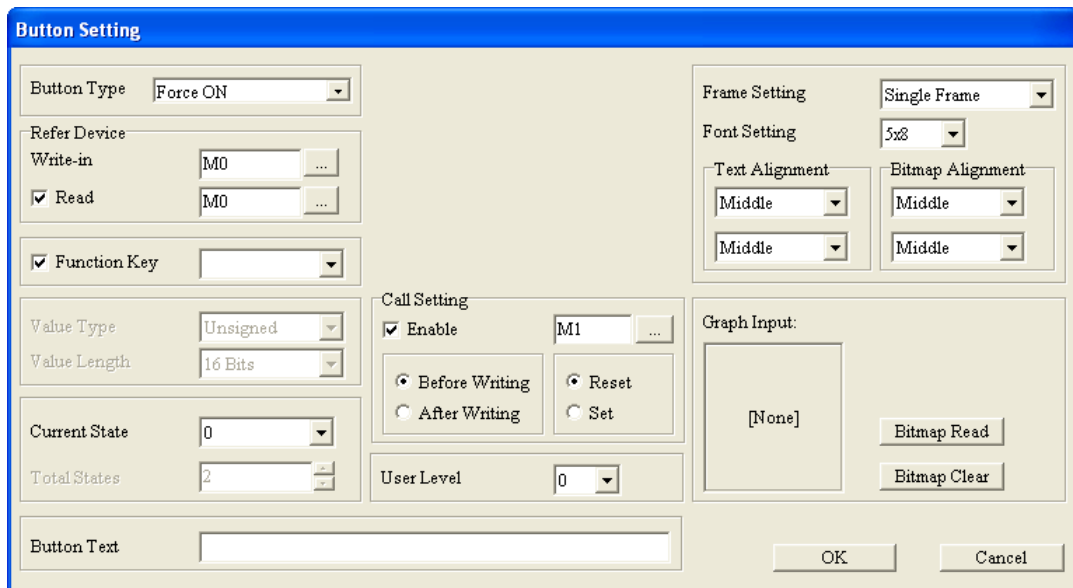

Figure 4-56 Button Setting window
- If **Force ON**, **Force OFF**, **Pulse ON**, **Pulse OFF**, **Push On/Off**, or **Momentary** is selected, the **Button Setting** window will be as shown in Figure 4-56. If users select **Momentary**, they can not select a user level.